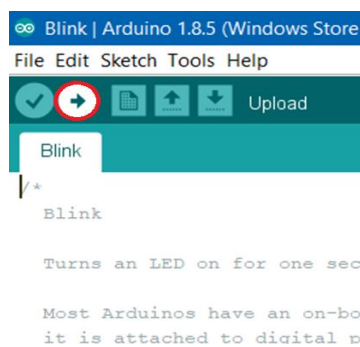

Figure 3. A screen shot of the Upload button, highlighted with a red circuit, in the Arduino IDE.
2. You compile and upload your Arduino program, or Sketch, by pressing the Press Upload button, as highlighted with a red circle in Figure 3: